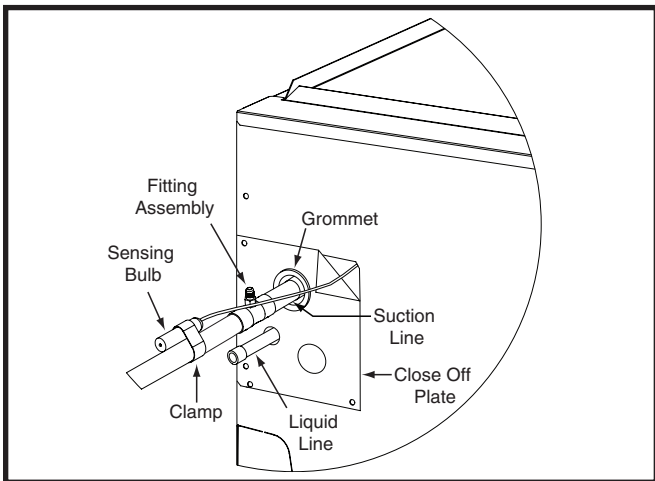

Figure 3. Sensing Bulb Mounted Externally
4. Modify the close off plate by bending back a section of the top right corner (Figure 3, page 3). **NOTE:** This will allow the external equalizer and sensing bulb to reach the refrigerant lines outside of the coil box.